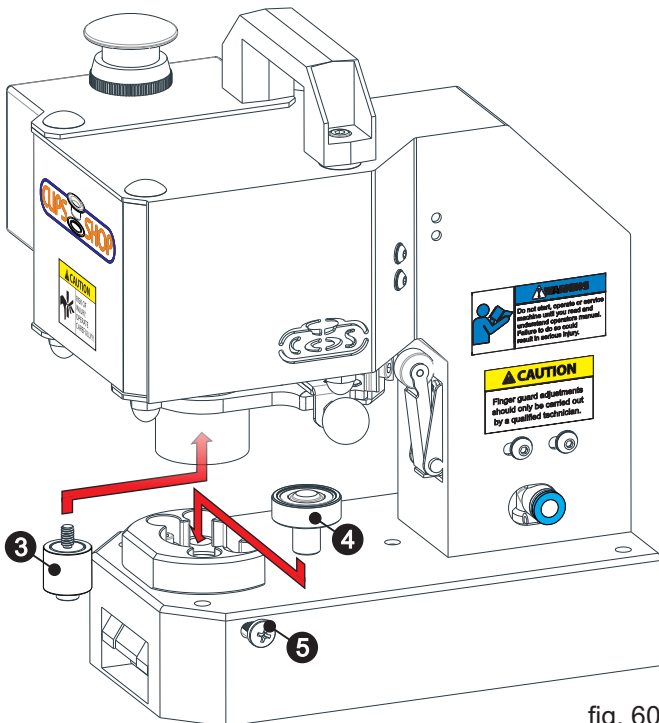

fig. 60
Insert the upper die ③ to the die adaptor/shaft by rotating manually or with a suitable wrench as shown in (fig. 60). Insert the lower die ④ into the lower die holder and secure its position by tightening the screw ⑤ with a screwdriver.